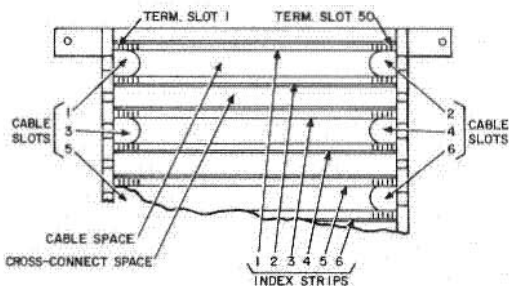

Fig. 15—Numbering Plan for 88-Type Wiring Block
- (1) When station or equipment cable enters from the top, use No. 6 twine with a weight. Drop behind wiring block and use wire hook to fish through proper cable slot. Pull cable down through cable slot.
- (2) When cable enters from the bottom, drop weighted No. 6 twine through proper cable slot and down behind the wiring blocks. Pull cable up through cable slot.
- 3.06** Cable slots are numbered with the odd numbers on the left and the even numbers on the right, from top to bottom (Fig. 15). In the red field, only the odd number cable slots on the left side are used.